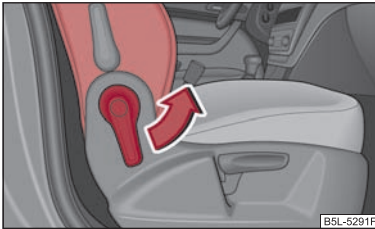

Fig. 56 Folding seat backrest of the front passenger seat
- Pull the lever in the direction of arrow ⇒ fig. 56 and fold the seat backrest forward until the lock is heard to engage.